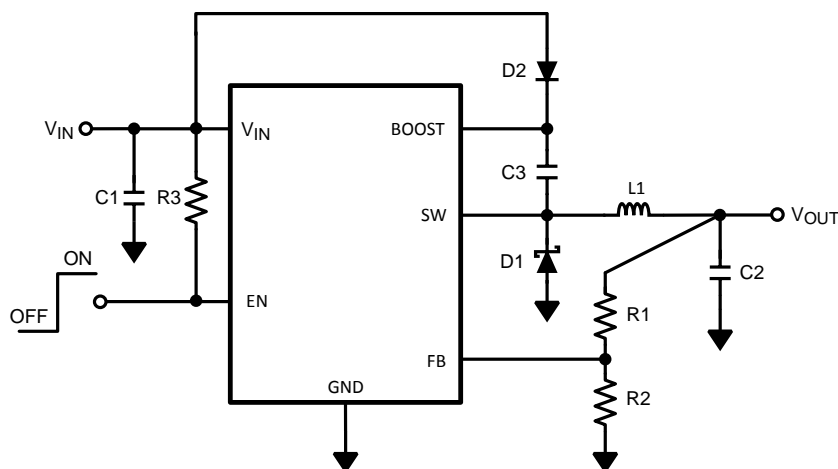

Figure 15. LM2736X (1.6 MHz) VBOOST Derived from VIN 5 V to 1.5 V / 750 mA
Table 1. Bill of Materials for Figure 15
**Table 1. Bill of Materials for Figure 15 (continued)**